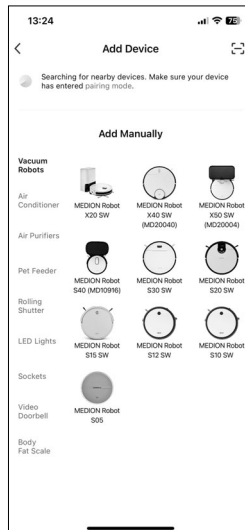

Fig. 2
- ▶ Select the **MEDION Robot X50 SW (MD 20004)** model in the **VACUUM CLEANER** appliance category (Fig. 2).